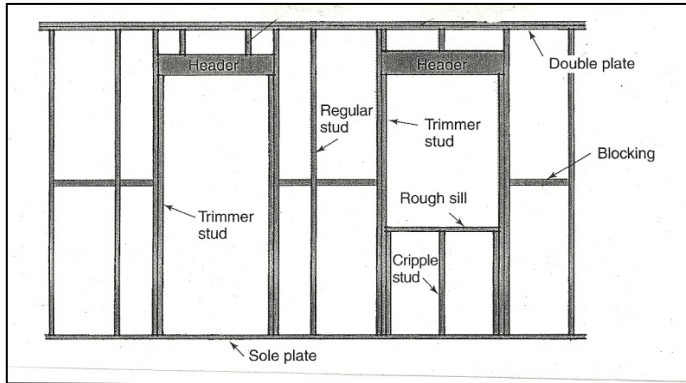

Figure VIII.6 Wall Frame Components
Various components of a wall frame are illustrated in Figure VIII.6 and are described below:
- **Top plate:** The top plate (shown in Figure VIII.6 as a double plate) rests above the studs. The next level of joists or rafters is supported by the top plate.